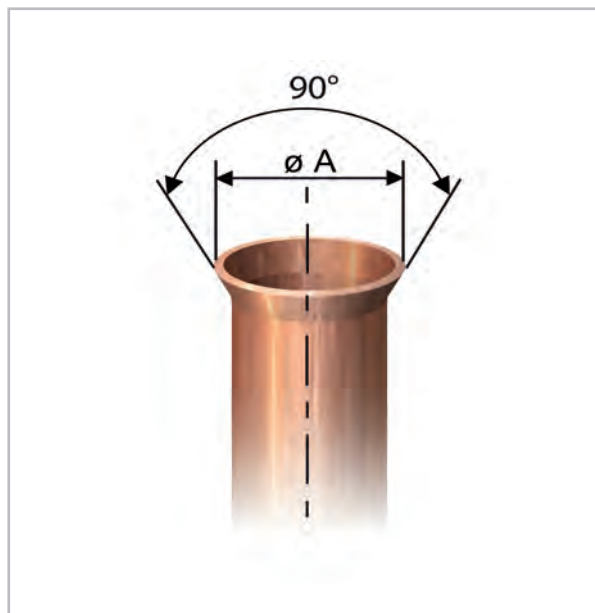

Fig. 40: Correct flange shape
9. ➤ Verify that the shape of the flange is correct (Fig. 40).